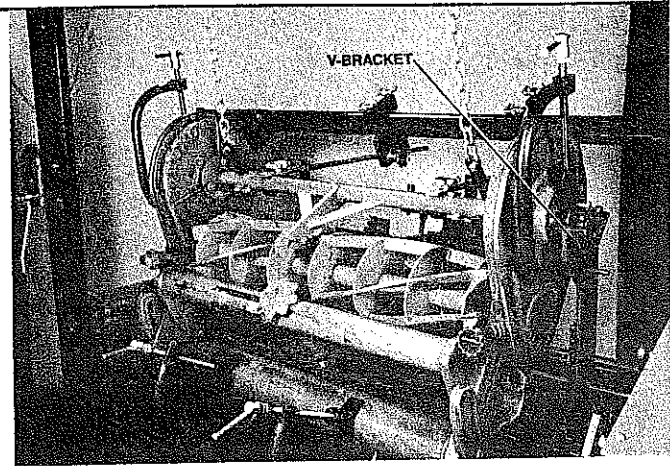

FIG. 41
- A. On Fairway mowers with exposed hubs, you will use the "V" reel hub supports. Normally they will be positioned in the top two holes of the lower supports with the offset "V" facing the rear of the machine. (See FIG. 41)